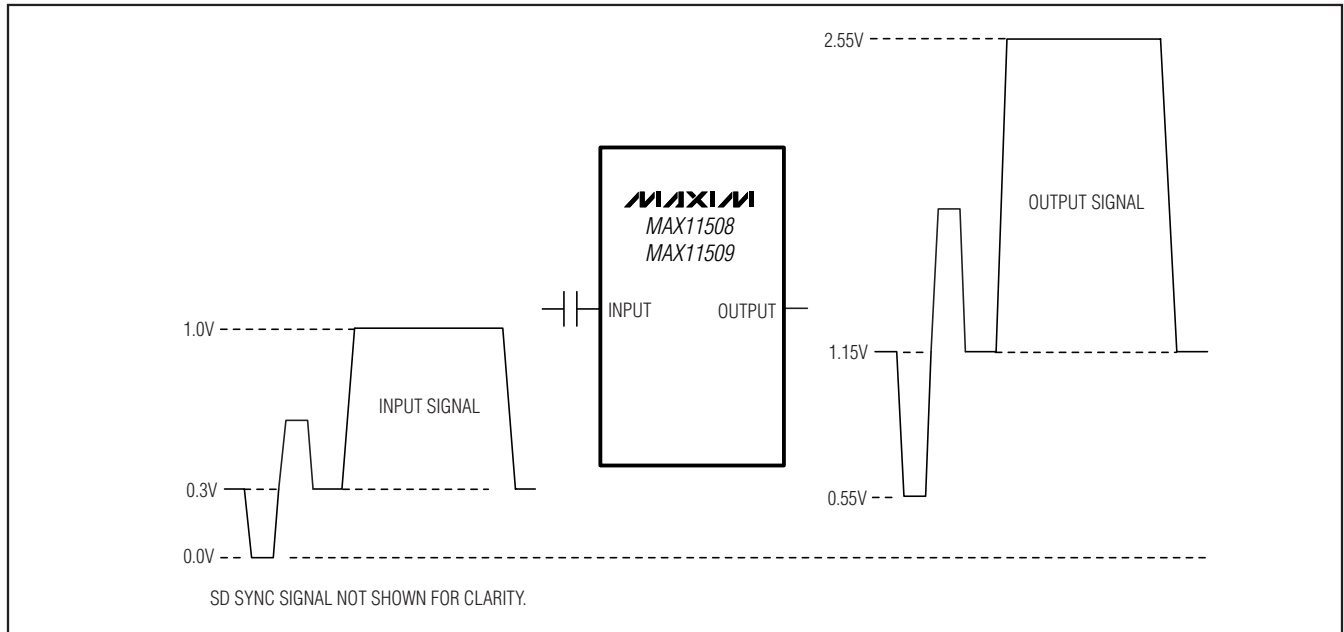

Figure 2. Typical AC-Coupled Signal
The MAX11508 provides a flat passband response and the MAX11509 provides a +0.8dB high-frequency boost at 5MHz (SD), 8.5MHz (PS), and 20MHz (HD) to help with system rolloff. No frequency waveform is included in bypass mode. Typical voltage waveforms are shown in Figures 2 and 3.
Typical voltage waveforms are shown in Figures 2 and 3.